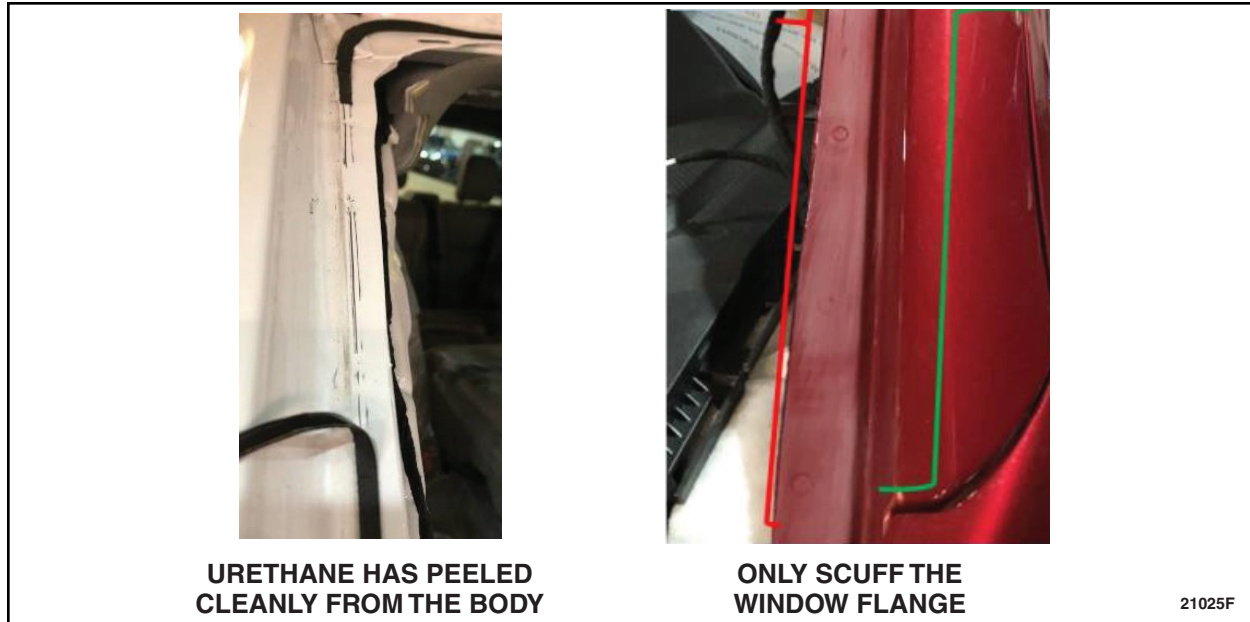

FIGURE 2
- In areas where the urethane peeled up cleanly, use **400-600 grit** sandpaper or a **fine** Scotch-Brite pad to manually scuff clear coat lightly until it displays a white haze being sure to only abrade the flange. See Figure 2.